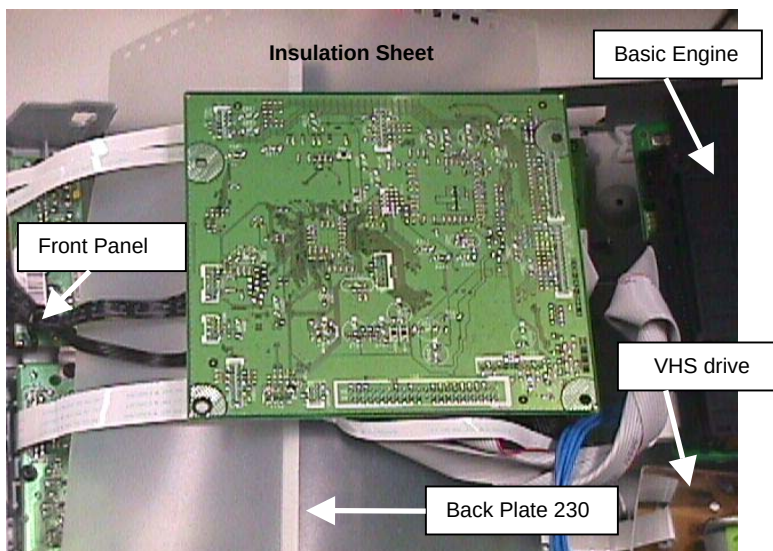

Figure 10 – Digital Board Service Position
- 3) Service position for Digital Board is given in Figure 10. The Front Panel should be detached from the frame 162 so that the Digital Board could be flipped easily for service without interference.